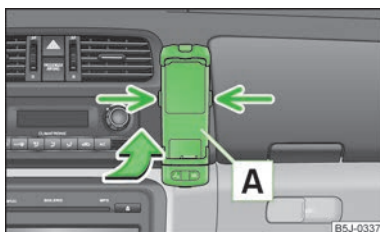

Fig. 93
- First of all push the adapter **A** in the direction of the arrow » Fig. 93 up to the stop into the mount. Then press the adapter slightly downwards, until it locks securely into position.
- Simultaneously press the locks on the mount » Fig. 93 and remove the adapter with the mobile phone.